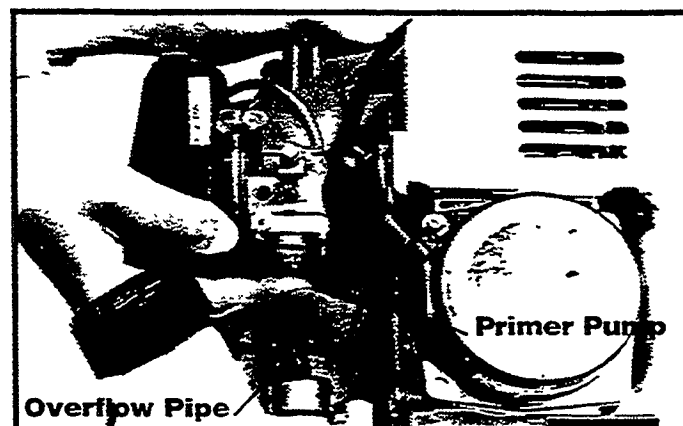

Fig. 6
4. Push primer pump several times until fuel flows out in clear overflow pipe. (Fig. 6)